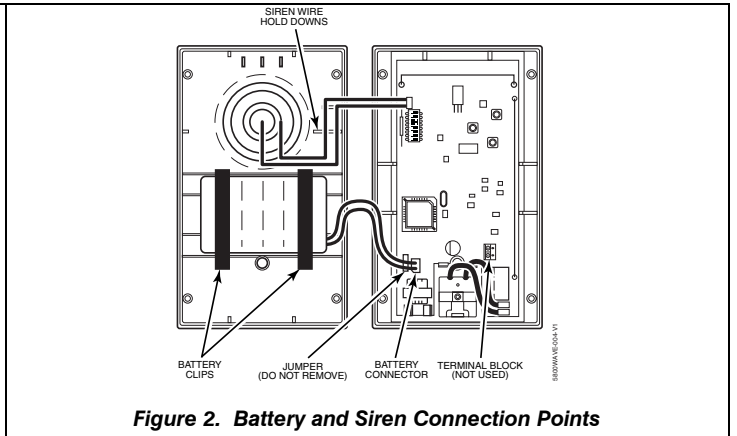

Figure 2. Battery and Siren Connection Points
When separating the case front from the back use care not to damage the wire leads connected to the sounder and circuit board. Refer to Figure 2.
3. Check that the standby battery is held securely in place by the two battery clips as shown in Figure 2.
4. Plug the standby battery connector into the PCB connector as shown in Figure 2.